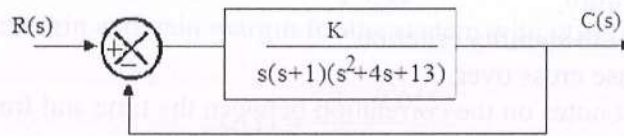

Figure 2
9. Sketch the root loci for the system shown in Figure 2. [10]